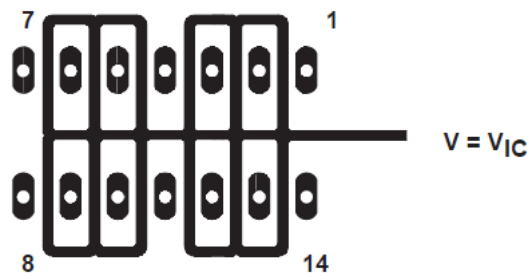

Figure 5-4. Isolation Metal Around Device Inputs (J and N Packages)
1. Isolate the device from other potential leakage sources. Use a grounded shield around and between the device inputs (see Figure 5-4). Leakages that can otherwise flow to the inputs are shunted away.
Because of the extremely high input impedance and resulting low bias current requirements, the TLC274 and TLC279 are well suited for low-level signal processing; however, leakage currents on printed-circuit boards and sockets can easily exceed bias current requirements and cause a degradation in device performance. Including guard rings around inputs (similar to those of Figure 5-4 in Section 5) is good practice. These guards must be driven from a low-impedance source at the same voltage level as the common-mode input (see Figure 6-3).